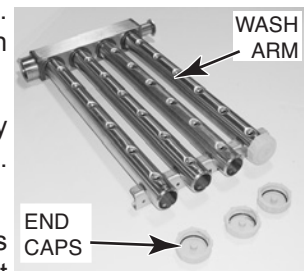

Fig. 33
5. Remove wash arms. Remove wash arm end caps (Fig. 33) and push any nozzle obstructions into the wash arms. Thoroughly flush the wash arms in a sink. Replace the wash arm end caps.